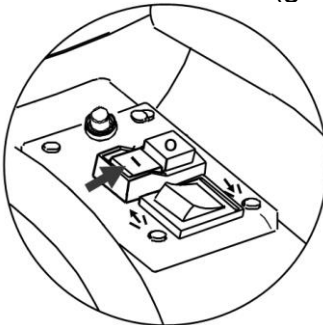

Fig.15
2. Press "I" switch (green switch) to make the machine run. (Fig.15)